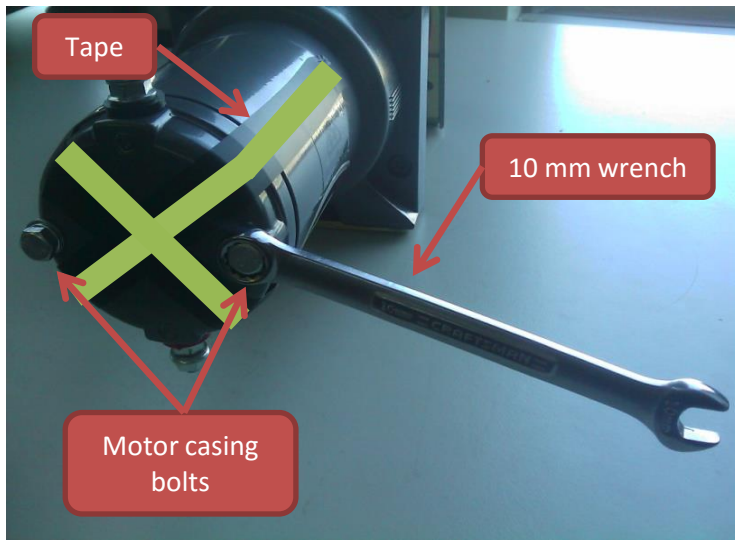

Figure 4
Using electrical tape, make a cross pattern as shown in (Figure 3) and (Figure 4)
Step 2 - Remove two (2) motor casing bolts using a 10mm wrench as seen in (Figure 4)